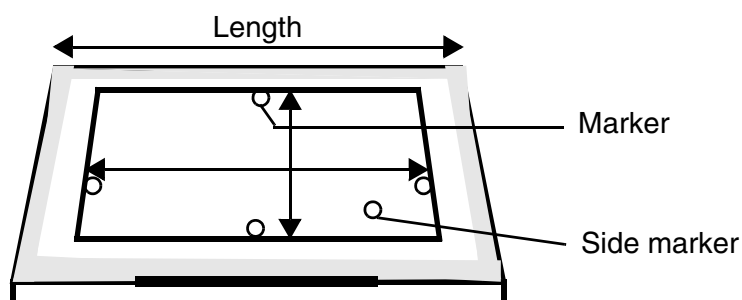

Fig. 5
- Place a radio-opaque marker (e.g. washer, coin) on the cassette as shown in Fig. 5. Position a washer as a side marker.